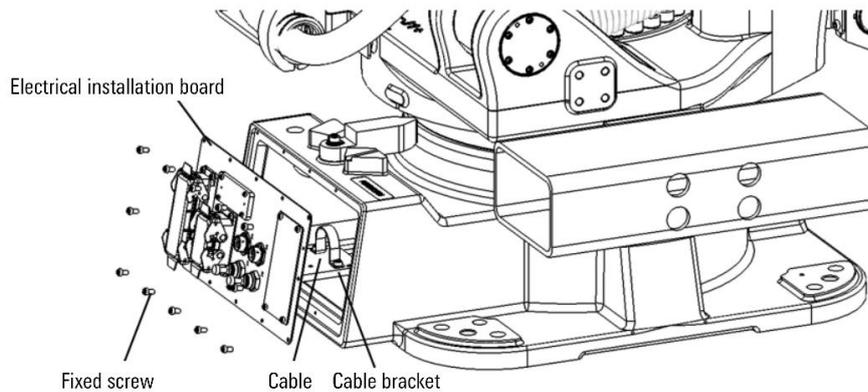

Figure 12-3 Internal cables of base
- Step1. Remove the electrical installation board, as shown in Figure 12-3 and remove the internal cables from the base.